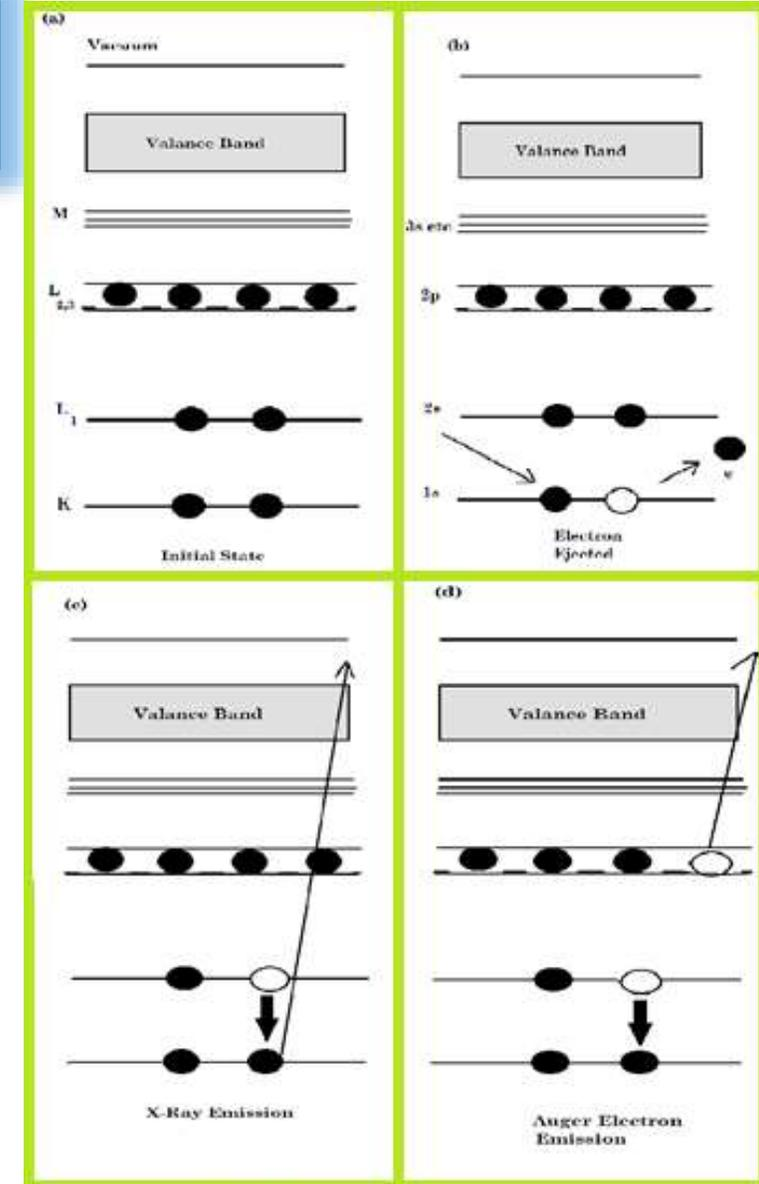

FIG 10
- The electron spectroscopy depends on energy levels of the emission of photons (*X-ray*) or electrons. As schematically shown in Fig:10